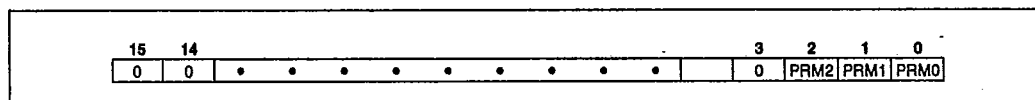

Figure 25. Priority Mask Register Format
This register is used to mask all interrupts below particular interrupt priority levels. The format of this register is shown in Figure 25. The code in the lower three bits of this register inhibits interrupts of priority lower (a higher priority number) than the code specified. For example, 100 written into this register masks interrupts of level five (101), six (110), and seven (111). The register is reset to seven (111) upon RESET so all interrupts are unmasked.